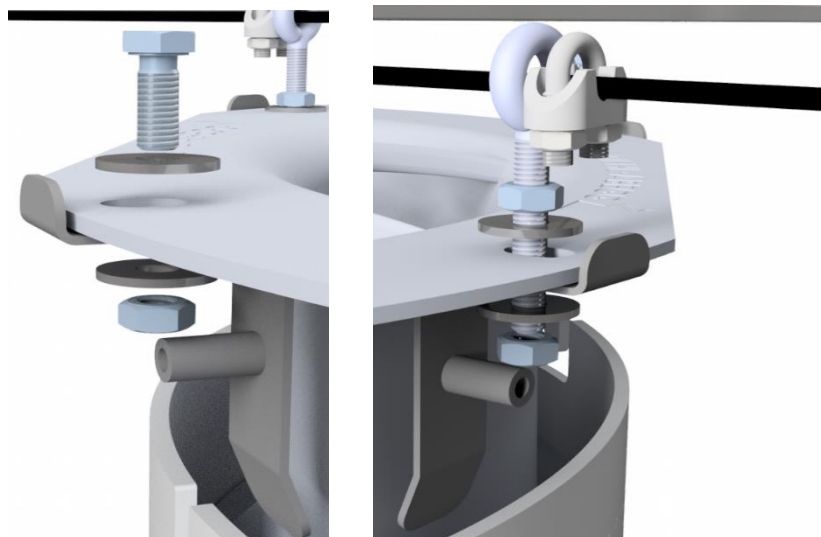
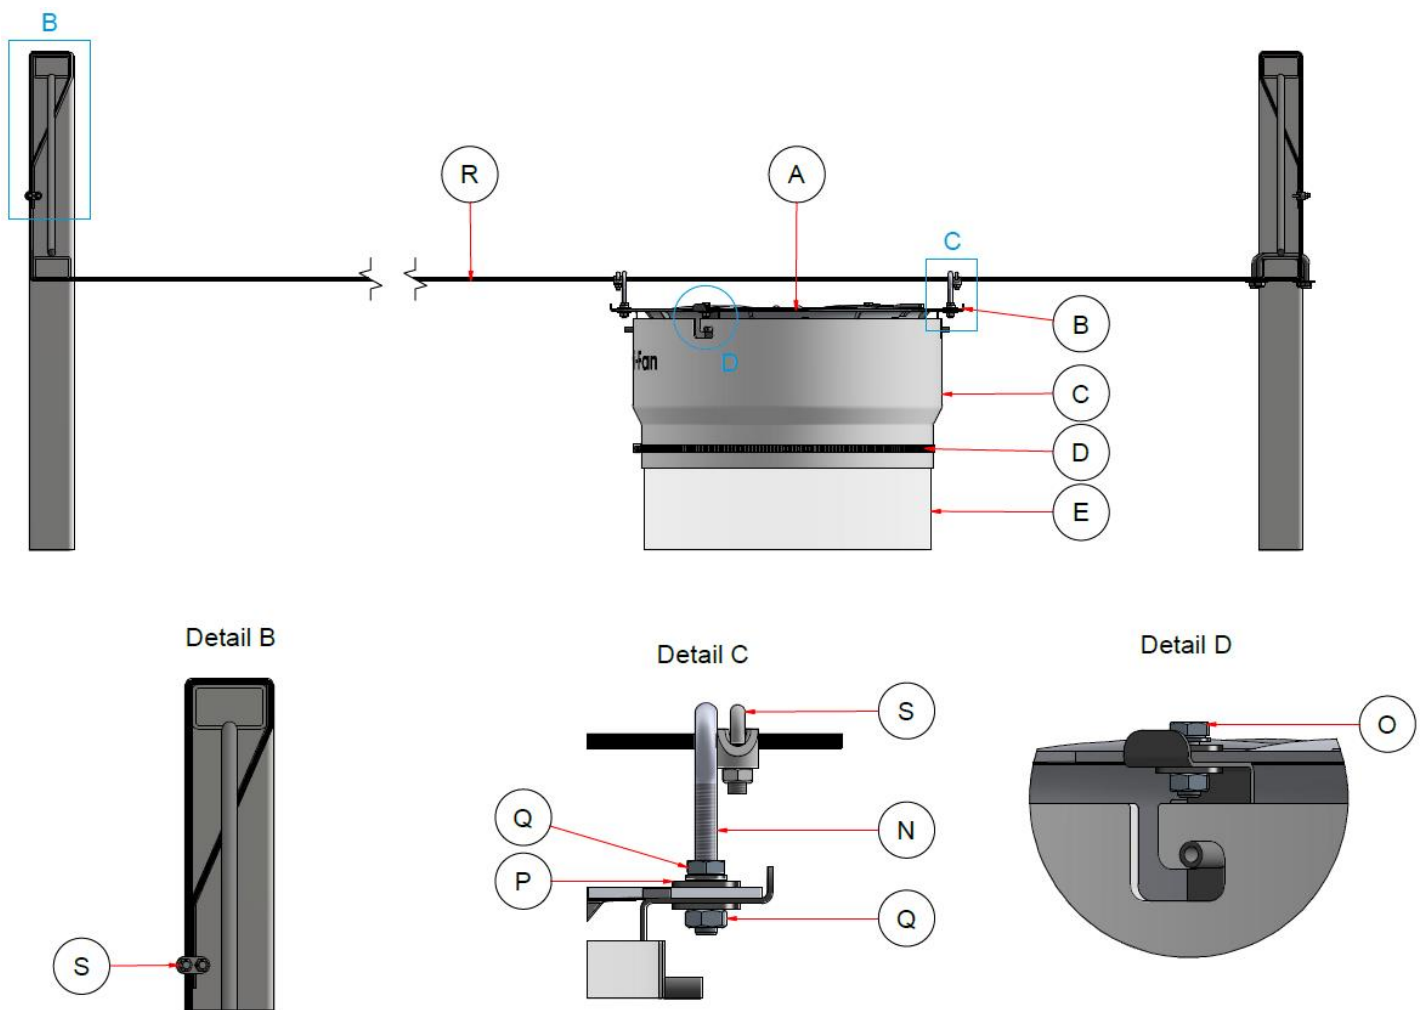

Figure 5 Installing the mounting brackets + spacers to the fan by means of bolts (left) and eye bolts (right)
Figure 6 Schematic drawing of a Verti-Fan suspended with the aid of a steel cable
- Make sure the hose (E) is able to hang down vertically;
- Ensure that no objects can fall/hang through the grid on the suction side of the fan (A);
- Make sure that the distance between the fan (A) and any overhead obstacles (e.g. shade screen) is at least 300 mm;
- Before the fan can be attached to the truss, the 4 mounting brackets and spacers (B) need to be attached to the fan (A);
- Fixate two of the mounting brackets and spacers (B) by means of 2x eye bolt M6 (N), 4x bodywork washer M6 (P) and 4x hexagonal nut M6 (Q). (see figure 5: right side);
- Fixate two of the mounting brackets and spacers (B) by means of 2x bolt M6x20 (O), 4x bodywork washer M6 (P) and 2x hexagonal nut M6 (Q). (see figure 5: left side);
- Steel cable (R);
- 2x wire clamp (S);
- 2x shrink sleeve (T);
- Cut the cable (R) to size if necessary, and place some shrink tubing over the ends. Then use heat to shrink them around the cable ends with the help of e.g. a lighter;
- Loop the steel cable (R) around or through the truss, and secure with a wire clamp (S). Do this according to detail view D figure 6;